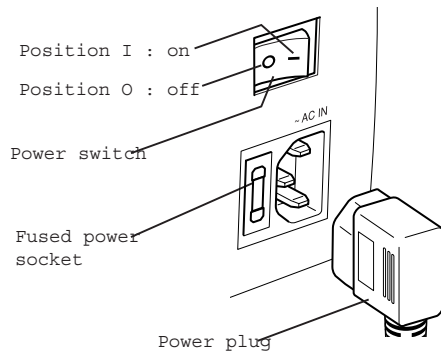

Fig. 13
**CAUTION:** Connect the projector to a power supply with a nominal voltage within the following values: 100-240 Vac, 50/60 Hz. It must be earthed (Fig. 13).